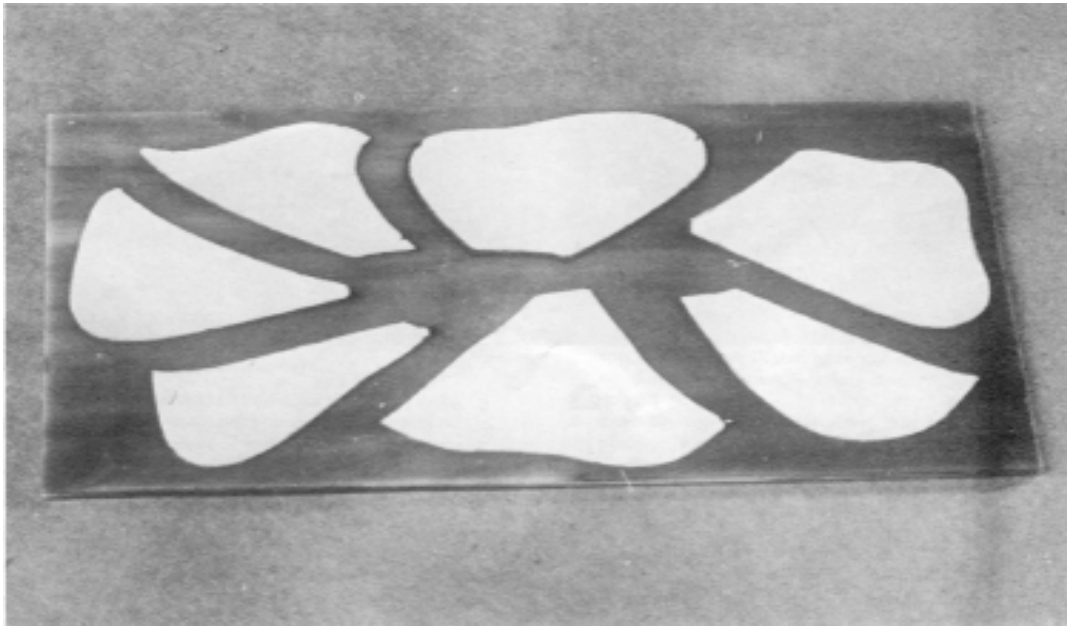

Fig 12.2
2. Cut sides out of 2mm clear glass. Cut base from 2 or 3mm mirror glass. If opalescent glass is used, make cardboard templates for flower petals and arrange them on glass (fig 12.2). Score and break each petal.